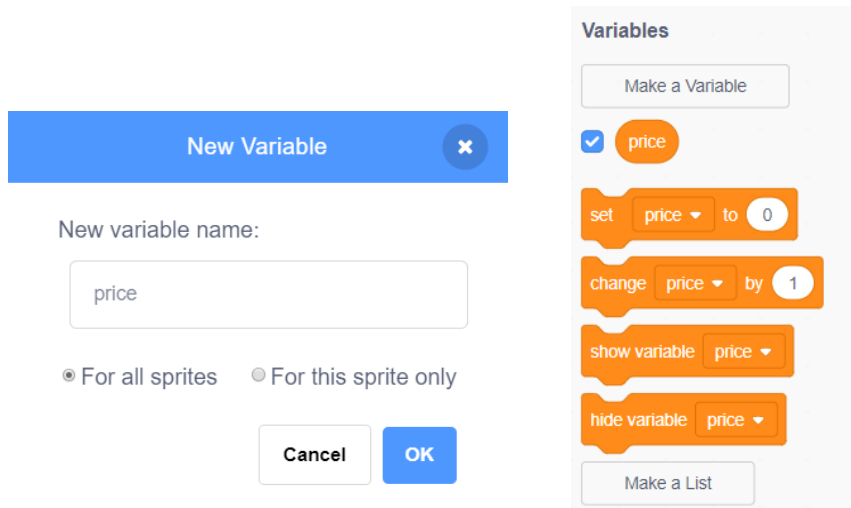

Figure 5.14 Create a variable "price"
Step 4: Click the "**Variables**" tab, select "Create a variable", and name it "price", as shown in Figure 5.14.